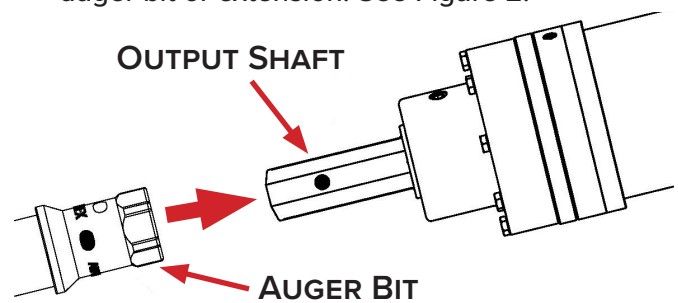

Figure 2
2. Tilt the auger drive up so the output shaft is at the approximate angle needed to install the auger bit or extension. See Figure 2.